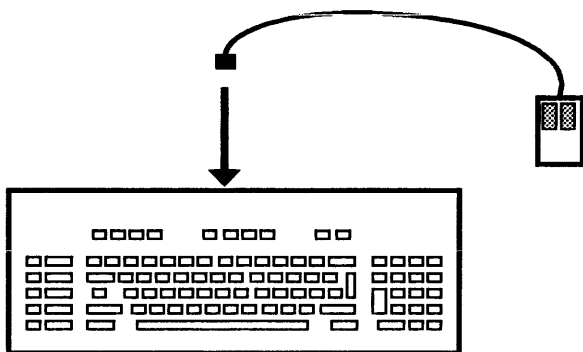

Figure 15. Connecting the Mouse Cable to the Keyboard
1. Attach the mouse cable to the keyboard (Figure 15). Make sure that the plug is pushed fully into the socket and that the back of the connector is flush with the keyboard.